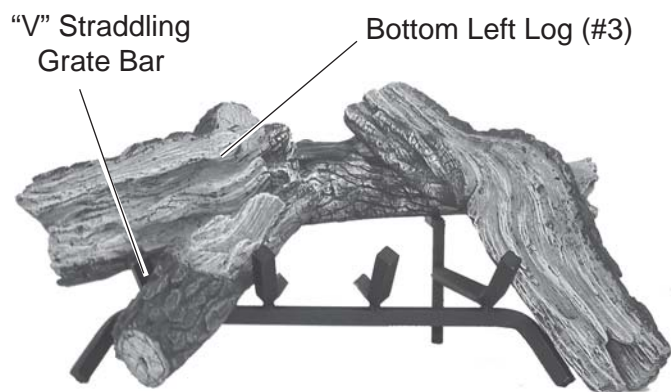

Figure 125 - Straddling "V" of Bottom Left Log (#3) on Grate Bar
4. Place Bottom Left Log #3 on grate. The “V” of the log should straddle the end grate bar. See Figure 125.